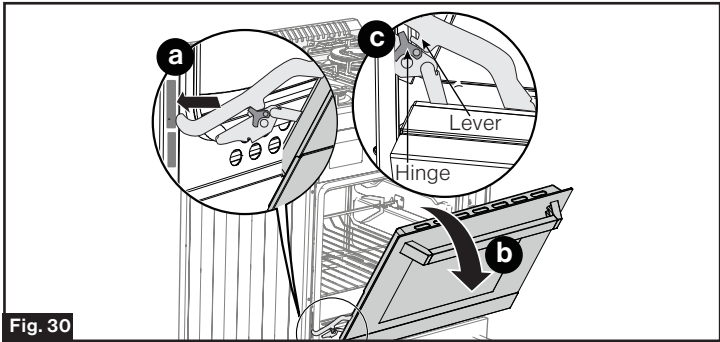

Fig. 30
7. Follow the steps below to re-attach to the oven door (Fig. 30):
- Insert the hinge into the top slot as shown in Fig 30 **a**.
- Open the door to its fully open position as shown in Fig 30 **b**. Ensure the hinge buckle has released from the lever as shown in Fig 30 **c**.